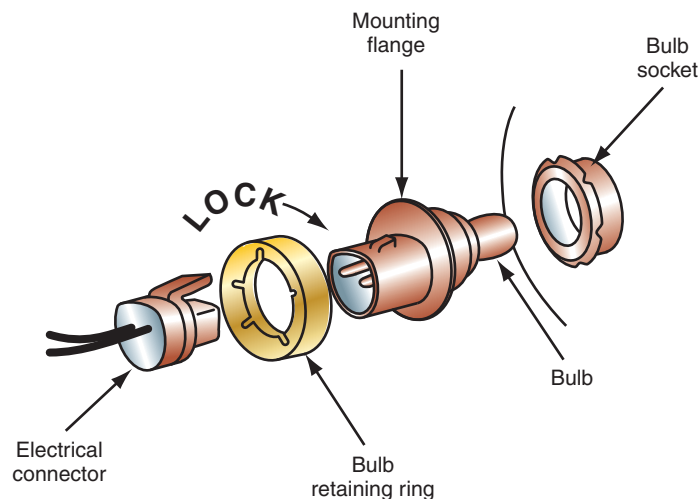

FIGURE 8-2 Composite headlight bulb replacement.
3. Unlock the bulb retaining ring by rotating it 1/8 of a turn (Figure 8-2).